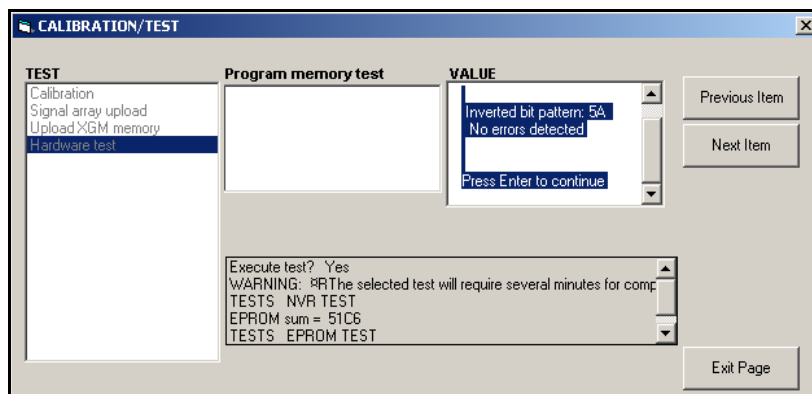

Figure 15: Completion of the NVR Test
4. If the NVR passes the test, the screen appears similar to *Figure 15* below. Click [Exit Page] to return to the *Hardware Test* option, and [Exit Page] again to return to the main *Calibration/Test* menu.